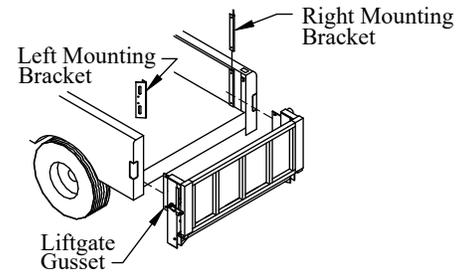

Figure 5: Mounting bracket and liftgate.
- Position** the mounting brackets into the truck bed in front of the corner posts (Figure 5).
- (2) 3/8"x1" hex head bolts on the bracket-side (Figure 5).
- (2) 3/8" lock washers, and (2) 3/8" nuts on the bracket-side (Figure 5).
- Drill** two (2) 3/8" holes into each corner post using the two holes in the bracket as a guide.